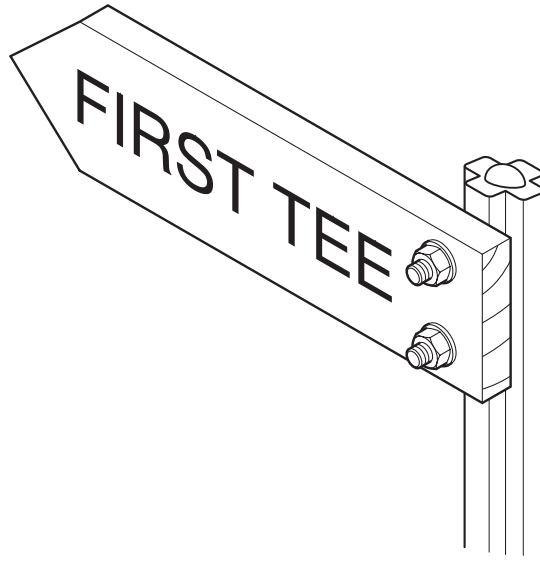

Fig. 5
- 5 A number of direction signs of the type shown in Fig. 5 are required for a golf course. The signs are made from natural untreated wood.